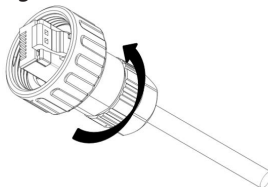

Figure 6-33 Tighten the lock nut
Step 4: Tighten the lock nut with a wrench in the direction shown in the diagram, with a torque of $0.5 \sim 0.6 \text{ N}\cdot\text{m}$, as shown in Figure 6-33.
The wiring diagram of the M100-E is shown in Figure 6-33, including DC side wiring, AC side wiring, other signal wiring, and protective grounding wiring.